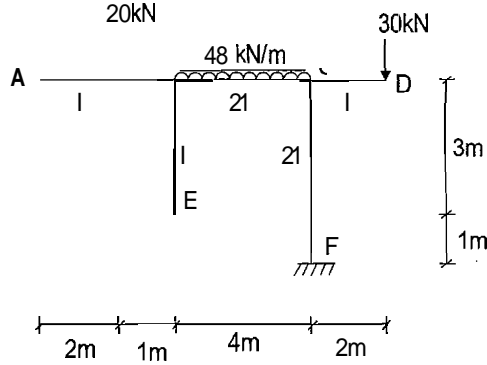

Fig. 2
2. Analyse the frame shown in fig. 2 by slope and deflection method and draw BMD. 20